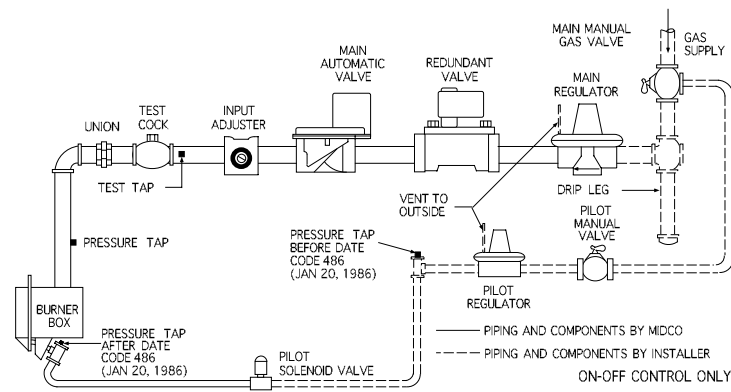

Figure 12: Gas Piping Schematic
□ Piping follows normal practice and should be arranged as shown in Figure 12 with a drip leg at the end of the vertical drop. **The piping must be firmly supported independent of the burner.**